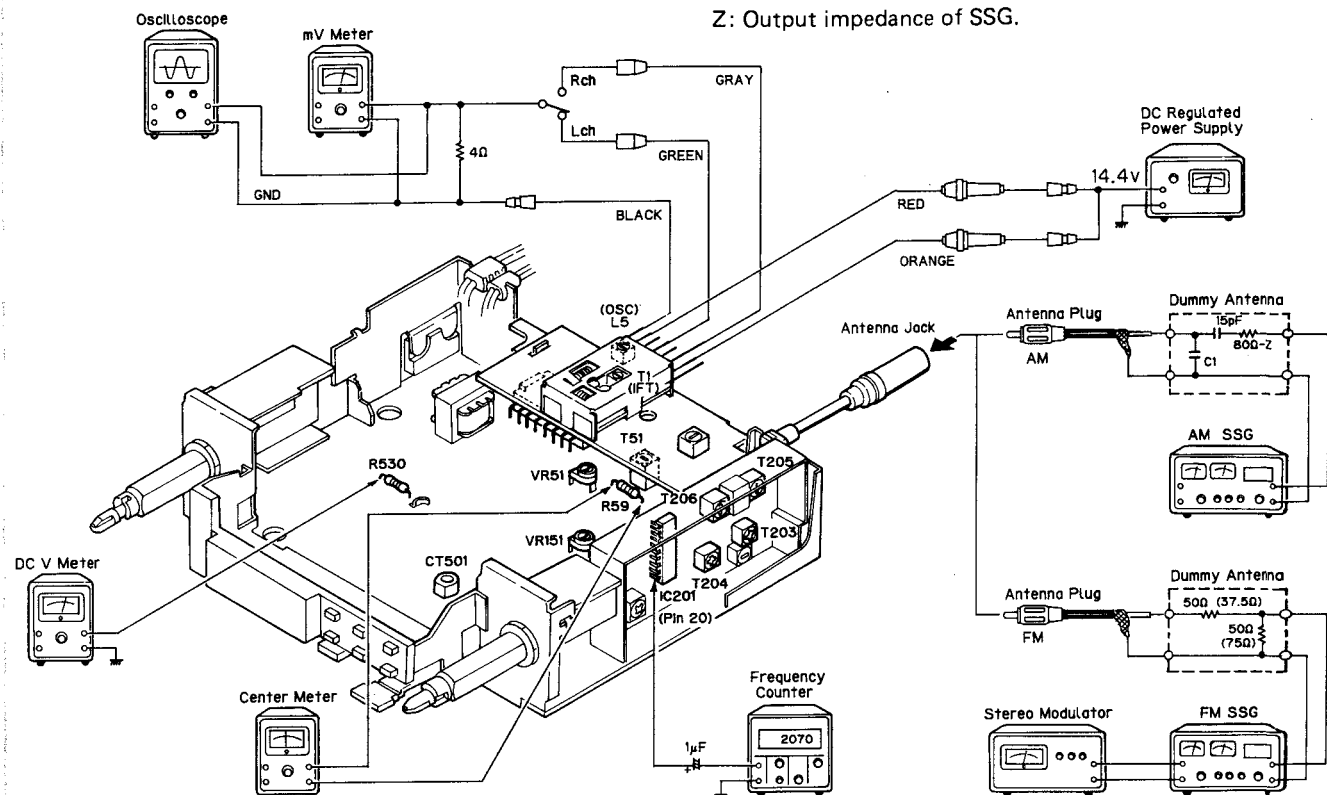

Fig. 2
● Connection Diagram (shown in Fig. 2)
- Connection Diagram (shown in Fig. 2)